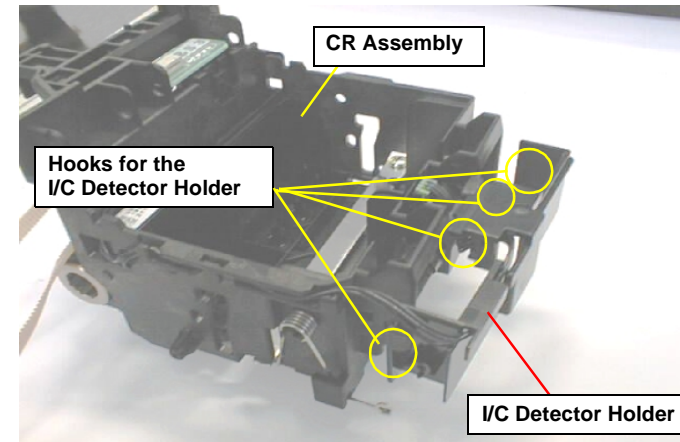

Figure 4-43. Removing the I/C Detector Holder
- 3) Remove the I/C Detector Holder by releasing the four hooks. Refer to Figure 4-43.